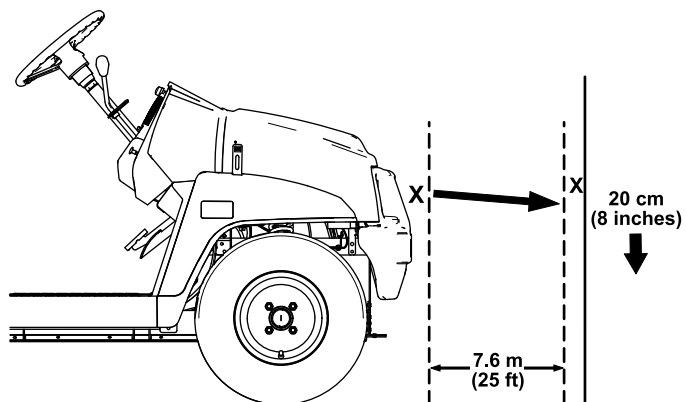

Figure 48
- Park the machine on a level surface with the headlights approximately 7.6 m (25 ft) from a wall (Figure 48).
The brightest part of the headlight beam should be 20 cm (8 inches) below the mark placed on the wall (Figure 48).